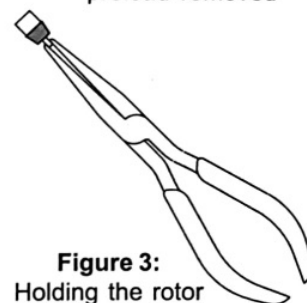

Figure 3: Holding the rotor
1. Carefully grasp the tab end of the rotor, being careful not to mar the metal or touch the polymer. If it is difficult to grip the rotor securely, hemostats or needle-nosed pliers may be helpful. (Figure 3) Briefly immerse it in solvent.